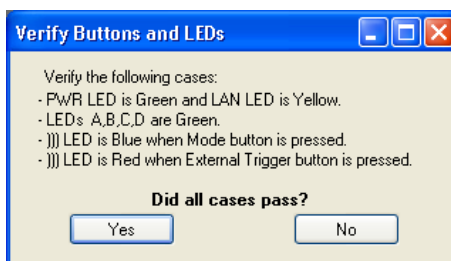

Figure 4 Button and LEDs verifications window
- When the download is complete you will see a window according to Figure 4. Please follow the instructions by verifying all LEDs and buttons. The “External Trigger” button is located on the “EPA Tester” connector.